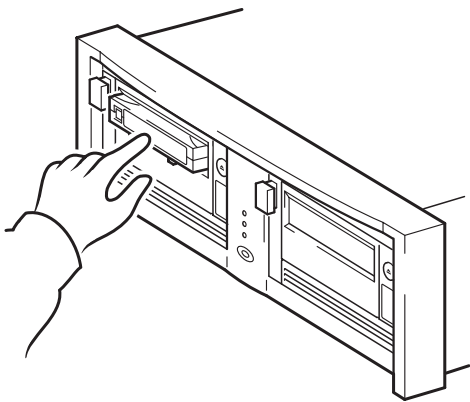

Figure 10a: using HP OBDR, step 1
- 1 Insert the latest bootable cartridge in the tape drive that you have assigned to HP OBDR (see Figure 10a). The cartridge must be written by a backup application that writes data to tape in CD-ROM format.